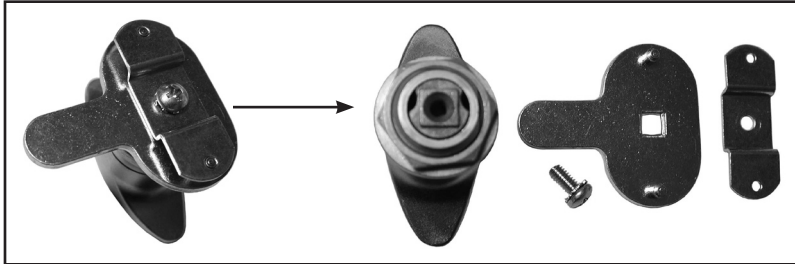

Figure 1
1. Remove screw and the cam assembly from the back of the handle and set aside. (Fig. 1)